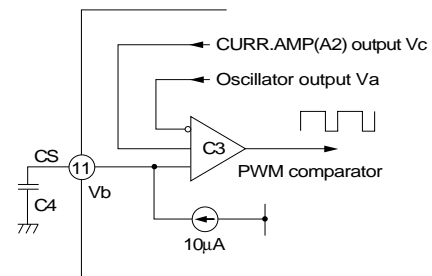

Fig. 5 PWM comparator
Figure 5 shows the comparator for PWM. When the oscillator output (Va) is smaller than the current error amplifier output (Vc), the comparator output is high and the output ON signal is generated at pin 8. Pin 11 (CS) is a terminal for soft start. This terminal charges capacitor C4 with the internal constant current (10μA) for a soft start. Priority is given to Vb and Vc whichever is lower.